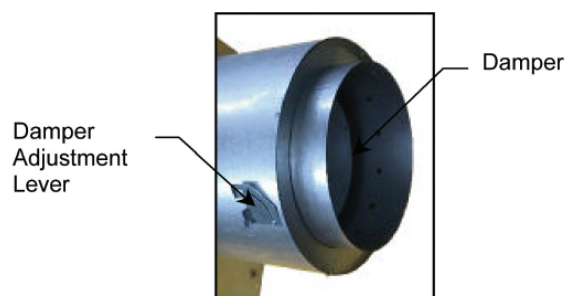

Figure 4
2. Remove the screws attaching the damper adjustment lever to the damper shaft and venter body. (See Figure 4) Rotate the damper to align the damper shaft with the slots in the inner pipe, and slide the shaft up into the slots. Then mount the backing plate over the outer pipe and route the flexible conduit and pressure switch tube through the holes provided in the backing plate. Fasten the backing plate to the inside wall with appropriate fasteners. Reposition the damper and shaft, and re-install damper adjustment lever and screws. The temporary support structure may now be removed.